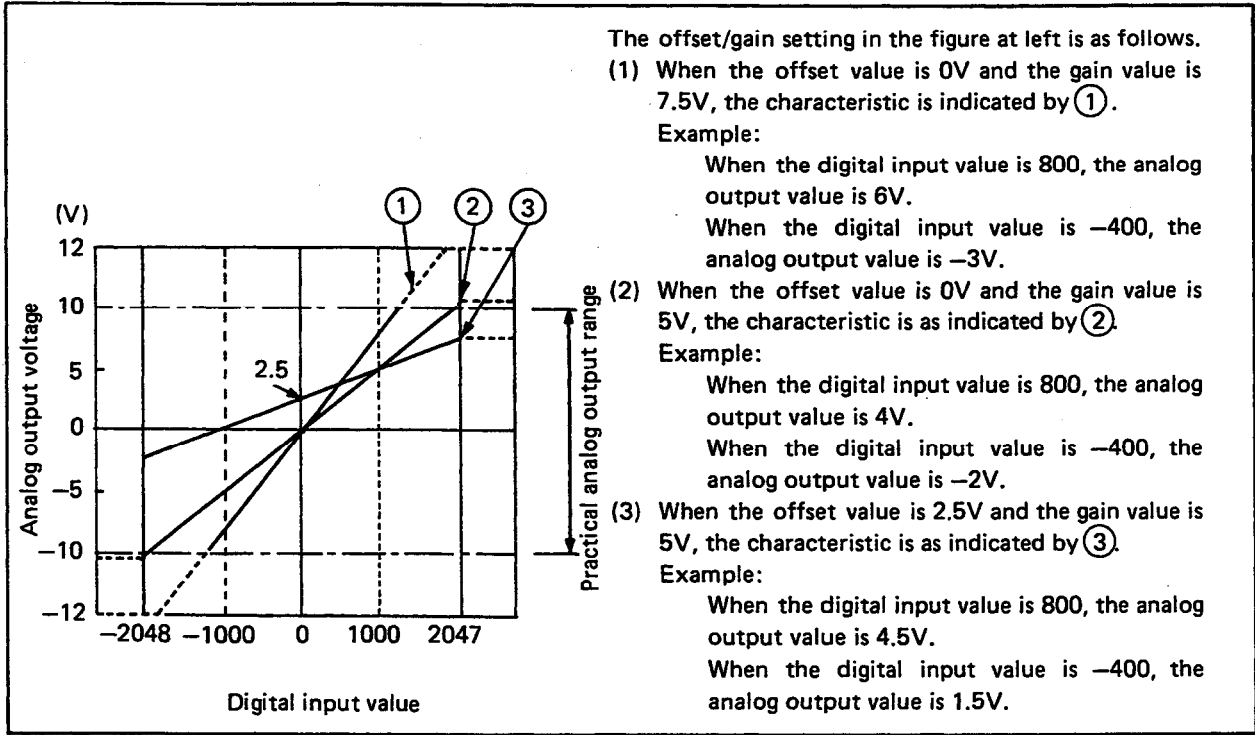
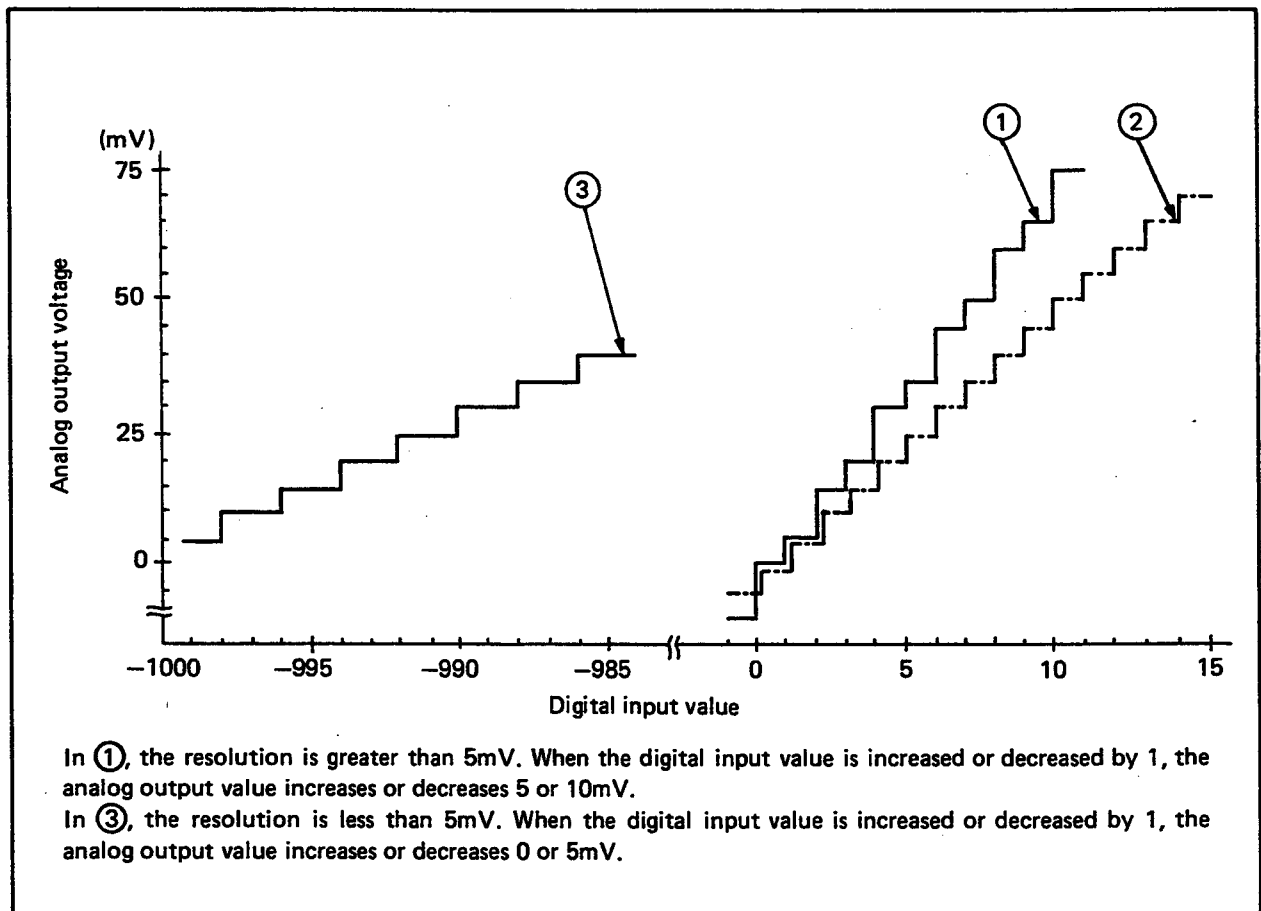

Fig. 3.2 Voltage Output Characteristic
Fig. 3.4 Digital Input Value and Voltage Output
Fig. 3.2 shows a voltage output characteristic example for several offset/gain settings.
1. The maximum resolution and overall accuracy are within the range of performance specifications when the working analog output range is -10 to 0 to +10V. Avoid use outside the above indicated range (dotted line on the voltage output characteristic graph in Fig. 3.2).
Fig. 3.4 and 3.5 show the relation between the digital input value and the analog output value when the offset/gain setting is changed. The offset value and gain value are values in the voltage and current output characteristic graphs in Fig. 3.2 and 3.3.